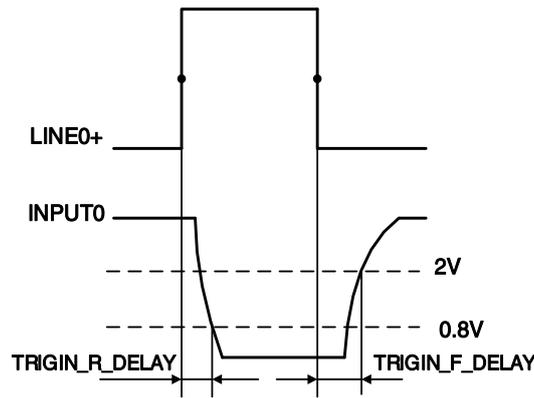

Figure 7-5 Parameter of opto-isolated input circuit
- Rising edge delay: <math><50\mu\text{s}</math> ($0^{\circ}\text{C}\sim 45^{\circ}\text{C}</math>), parameter description as shown in Figure 7-5$
- Falling edge delay: <math><50\mu\text{s}</math> ($0^{\circ}\text{C}\sim 45^{\circ}\text{C}</math>), parameter description as shown in Figure 7-5$
- Input rising time delay: <math><2\mu\text{s}</math> (0°C~45°C), parameter description as shown in Figure 7-5
- Input falling time delay: <math><2\mu\text{s}</math> (0°C~45°C), parameter description as shown in Figure 7-5